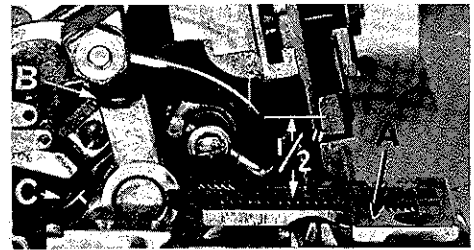

Fig. 3
With throat plate assembled in position, needle should center in the front end of needle slot. When needle is at high position, needle point should be set  $1/2$  inch above throat plate (A, Fig. 3) for Style 39500 FN;  $15/32$  inch for Styles 39500 FV, FX, GU and JX; and  $33/64$  inch for Style 39500 GP. To align needle or set the height above the throat plate, move needle driving arm (B, Fig. 3) by loosening clamp screw (C). Remove throat plate.